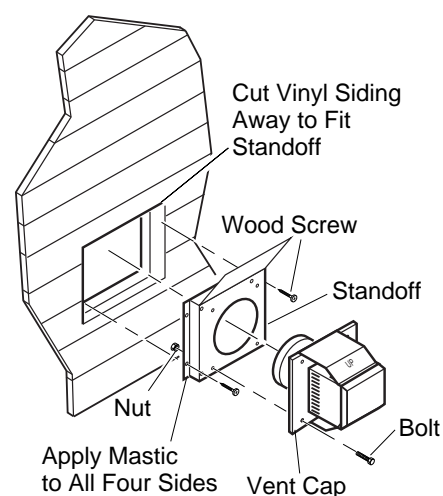

Figure 14 - Installing Vinyl Siding Standoff
- For vinyl siding use vinyl siding standoffs between vent cap and exterior wall. The vinyl siding standoff prevents excessive heat from melting the vinyl siding material. Bolt the vent cap to the standoff. Apply non-hardening mastic around outside edge of the standoff instead of the vent cap assembly. Use wood screws provided to attach the standoff. See Figure 14.